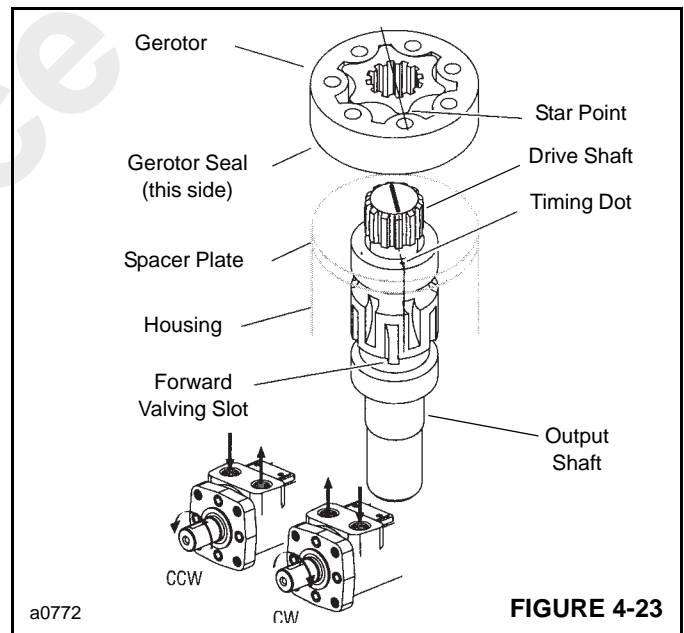
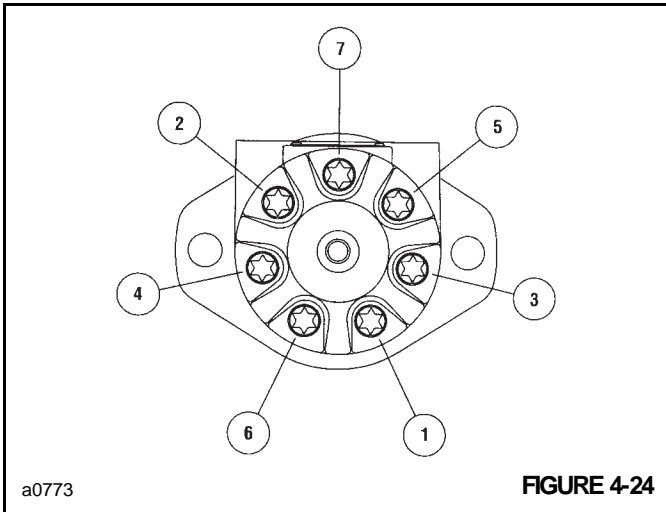

FIGURE 4-23
FIGURE 4-24
- Install drive shaft (14) Figure 4-14. Use a felt tip pen to mark one drive tooth. Align this mark with the timing dot on the output shaft Figure 4-23.
**NOTE:** If drive shaft (14) is not symmetrical, install larger splined end into output shaft (9).
- Install spacer plate (15).
- Install seal (13) in gerotor seal groove. Carefully place gerotor on spacer plate, seal side toward the spacer plate. Align any star point with tooth marked on drive shaft Figure 4-23.
- Rotate gerotor (16) to line up with bolt holes. Be careful not to disengage star from drive or disturb the gerotor seal.
- Install seal (13) in end cap (17). Carefully place the end cap on gerotor (16).
21. Install capscrews (19) and seal washers (18) in end cap (17). Tighten the capscrews to 7.4 Nm (40 lb-in). Make sure the seal washers are properly seated. Then, tighten the capscrews to a torque of 27-28 Nm (235-250 lb-in) in the sequence shown Figure 4-24.